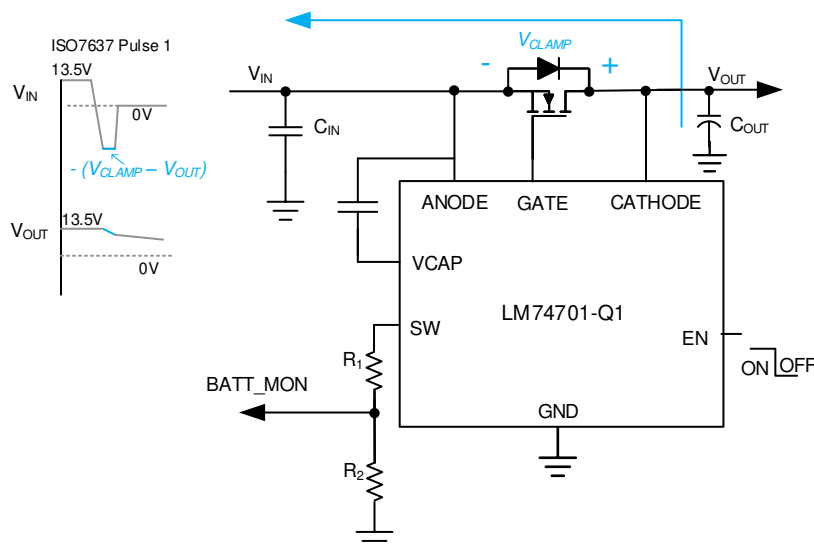

Figure 8-4. LM74701-Q1 Operation During VDS Clamp Mode
2. Once the voltage across Drain and Source of the MOSFET reaches VCLAMP level (35-V min), GATE is turned ON back in the saturation region, operating external MOSFET as an active clamp and dissipates the ISO7637 pulse 1 energy. The typical circuit operation of LM74701-Q1 during ISO7637 pulse 1 is shown in Figure 8-4.